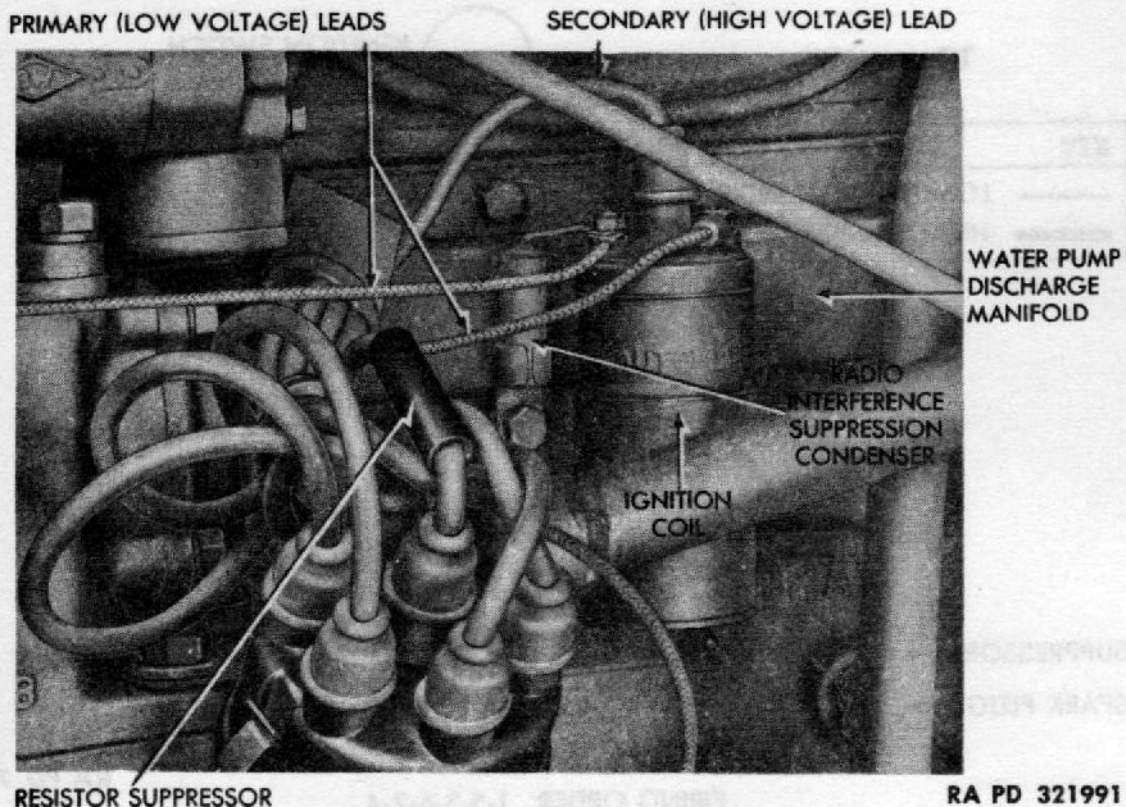

Figure 56 – Ignition Coil Installed
(2) **DISCONNECT WIRING** (fig. 56). Pull secondary (high-voltage) lead from tower on end of coil. Lift one wire from each terminal. Tag wires to aid in correct assembly.
(3) **REMOVE COIL** (fig. 56). Remove the two cap screws and lock washers which attach coil bracket to water pump discharge manifold.
(1) **ATTACH COIL TO ENGINE** (fig. 56). Place coil in position on
(2) **CONNECT WIRING** (fig. 56). Place low-tension wire from ignition filter on coil low-tension terminal marked “+.” Place low-tension wire from ignition filter and lead from condenser on coil low-tension terminals. Plug high-tension wire from center tower of distributor cap into tower on coil.